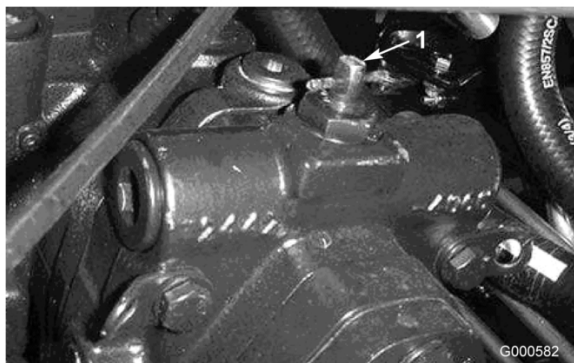

Figure 15
2. Rotate the bypass valve 90° (1/4 turn) in either direction to open and allow oil to bypass internally (Figure 15). Because fluid is bypassed, the machine can be slowly moved without damaging the transmission. Note the position of the valve when opening or closing.